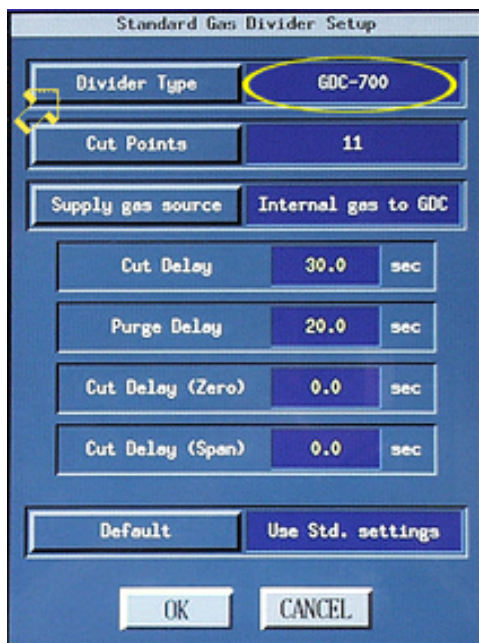

Figure 7
- 114 On the “Standard Gas Divider Setup” panel, verify that the field adjacent to the “Divider Type” button is set to “GDC 700.” If not, click on “Divider Type.” See the arrow in Figure 7. Select “GDC 700” from the menu. See the circle in Figure 7.